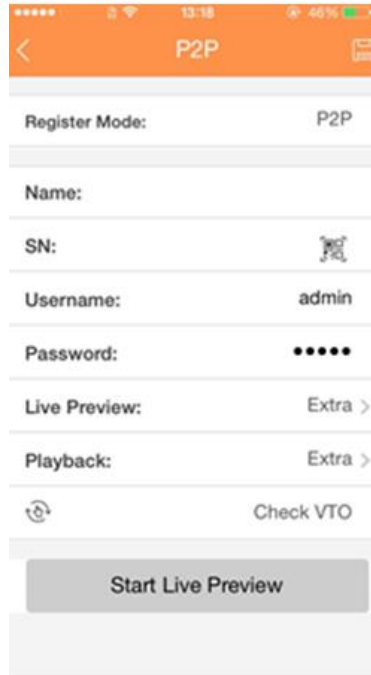

Figure 4-21
3. Tap Device manager button, you can use several modes (P2P/DDNS/IP and etc.) to add the device. Click  to save current setup. Tap Start Live preview to view all-channel video from the connected device. See Figure 4-21.